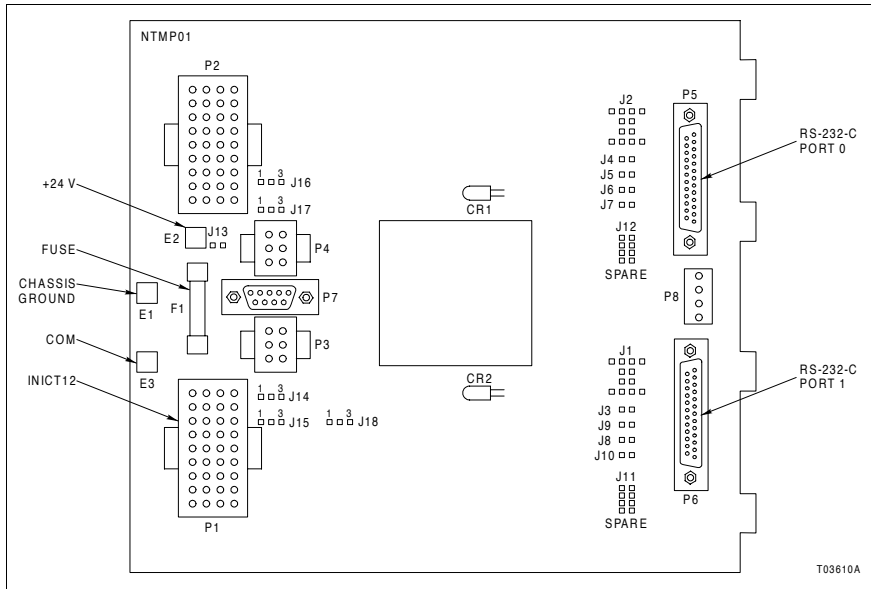

Figure PR5-1. NTMP01 Layout
This procedure describes the steps required to set up the NTMP01 termination unit for use with the INIC12 interface (Fig. PR5-1).
1. Determine the requirements of the application and set the desired serial port operation with jumpers J1 (P6, port one) and J2 (P5, port zero): DTE, DCE, loopback test, nonhandshake, and security key (Table PR5-1). These jumpers configure the RXD, TXD, RTS, and CTS signals. Figure PR5-1 shows the jumper signal connections.